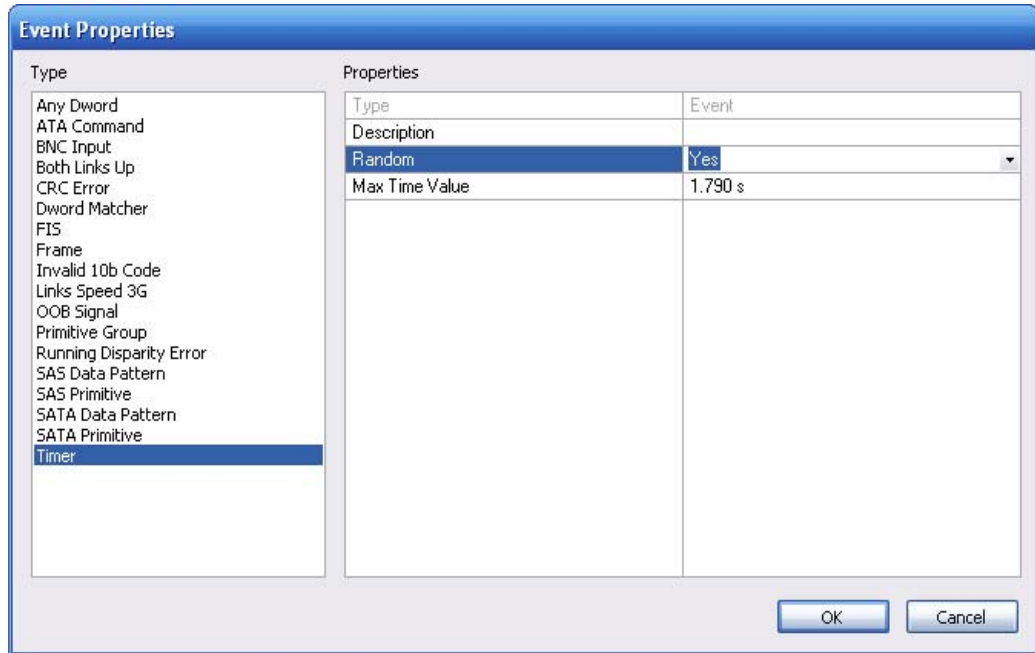

Figure 70 Example 6: Event Drop-Down List
- Step 4** The Event Properties dialog box appears (Figure 70). In the Type column on the left, choose **Timer**. Set the timer for random timing with a maximum time limit of 1.790 seconds.